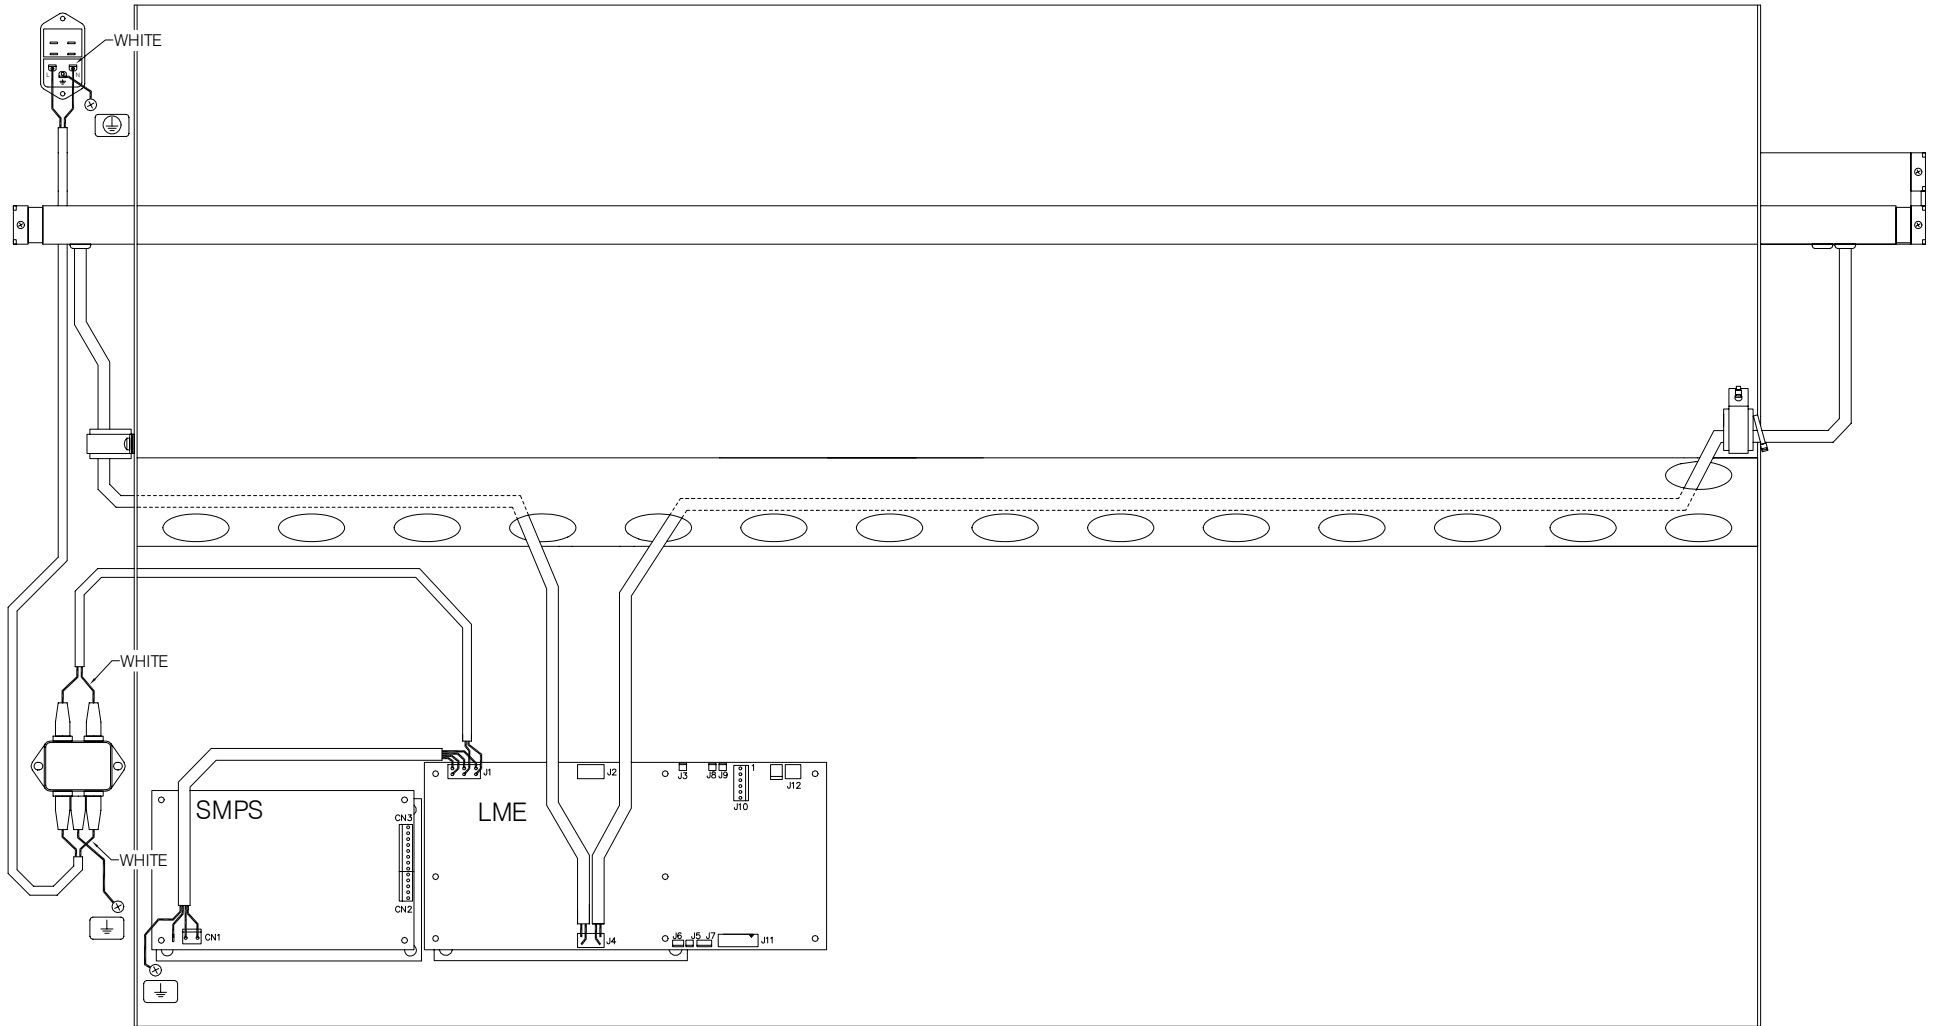

Fig. 11-5 COUGAR 36 Primary Wiring
- Fig. 11-5 COUGAR 36, Primary Wiring, page 183